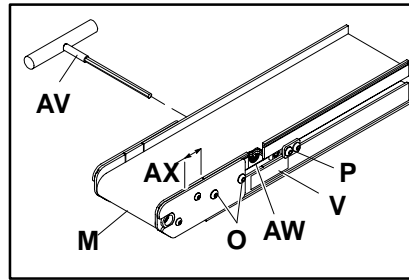
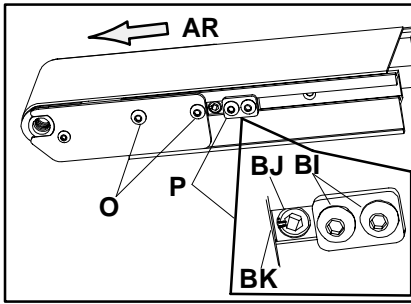

Figure 19
Figure 20
cover plate screws (O of Figure 19) on the tensioning end (M) of the conveyor.
Locate the tension end (M of Figure 19) of the conveyor identified with a label (V).
Position the belt tracking cam (P) against the slide bar while making sure groove is correctly oriented (see Figure 20 on page 8).
Before proceeding to adjust the belt tracking, make sure the cover plate screws (O of Figure 20) on both sides of the conveyor are tightly secured. Then, adjust belt tracking as follows:
With the conveyor running, use the 5 mm hex key wrench (AV of Figure 19) to slowly rotate the belt tracking cam (BJ of Figure 20). Rotate the cam in small increments in either direction to cause the belt to track away from the conveyor side until the belt tracks in the center of the conveyor. Always allow the conveyor belt to make several revolutions between adjustments.